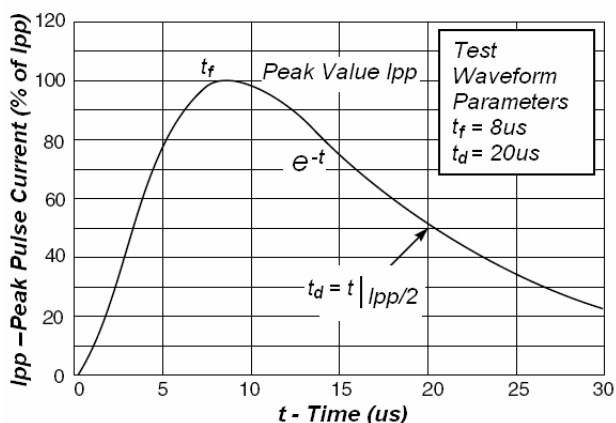

Fig1. Pulse Waveform
2. Surge current waveform per Figure 1.